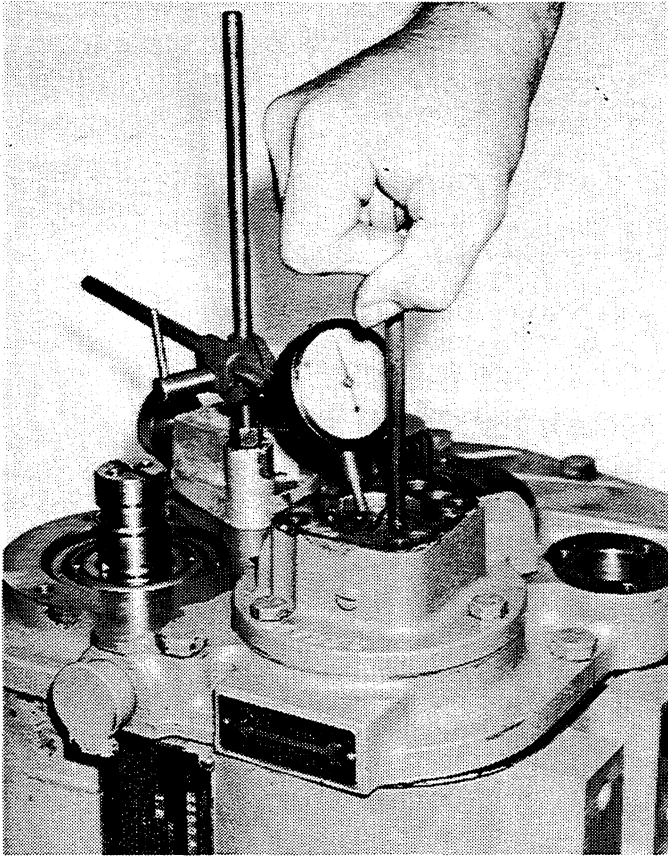

Figure 9-4. Applying Pushing Force While Checking Reverse Clutch Shaft End Play.
6. Install an eyebolt into the threaded hole in the rear end of the reverse clutch shaft. See Figure 9-4.